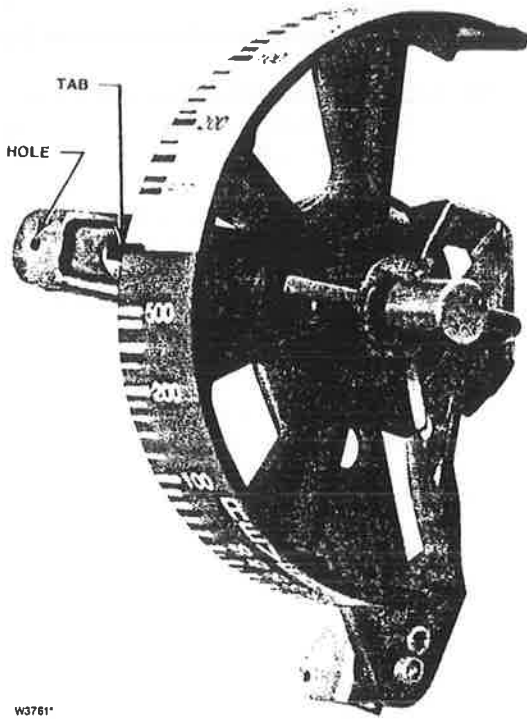

Figure 6-7. Proportional Band Knob Setting
9. Remove the E-ring (key 27) from the nozzle assembly (key 21).
10. Remove the nozzle assembly (key 21) from the bottom of the set point beam assembly (key 23).
11. Remove the retaining clip (key 26).
12. Remove the proportional band knob (key 25) or replace it if necessary.
13. Inspect the nozzle assembly O-ring (key 24) and replace it if necessary.
14. Inspect the nozzle assembly (key 21), and replace if necessary. Inspect the nozzle orifice, and clean it if necessary. Inspect the washer (key 22) and replace it, if necessary.
15. Lubricate (key 318) and install the proportional band knob (key 25) on the set point beam assembly (key 23).
16. Install the retaining clip (key 26) on the three posts on the proportional band knob.
17. Sparingly apply a suitable lubricant (key 318) to the nozzle assembly O-ring and the mylar washer (key 22). Install the nozzle assembly (key 21) through the mylar washer, the set point beam assembly (key 23), the proportional band knob (key 25) and the retaining clip (key 26) into the cap, aligning the nozzle with the tab on the proportional band knob as shown in figure 6-7.
18. While holding the nozzle assembly (key 21) against the set point beam assembly (key 23), depress the retaining clip (key 26), and install the E-ring (key 27) into the E-ring groove on the nozzle assembly (key 21). Ensure that all three tabs of the E-ring are engaged.
19. Inspect the O-ring on the relay nozzle tubing assembly (key 18), and replace it, if necessary. Sparingly apply a suitable lubricant (key 318) to the O-ring.
20. Install the relay nozzle tubing assembly (key 18) into the set point beam assembly.
21. Adjust the proportional band between DIRECT and REVERSE. Do this by aligning the tab on the proportional band knob with the hole in the set point beam assembly as shown in figure 6-7.
23. Adjust the proportional band between DIRECT and REVERSE. So this by aligning the tab on the proportional band knob with the hole in the set point beam assembly as shown in figure 6-7.